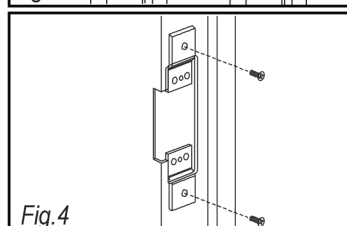

Fig. 4
4. To mount the strike where the hollow door frame material is unsuitable for mounting, install the provided mounting tabs (see Fig. 4).